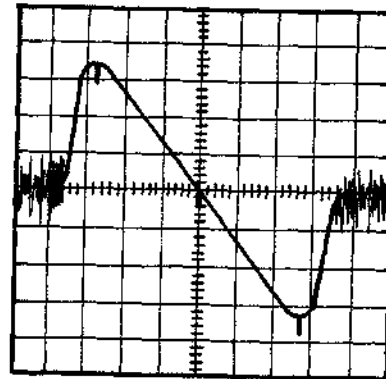

Fig. 19
3. Adjust the primary and secondary cores of T101 to obtain an "S" shaped waveform as shown in Fig. 19 and maximum gain.